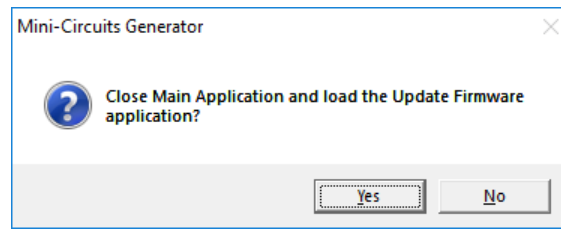

Figure 3.9.5 SSG-15G-RC Firmware upgrade alert
3.9.5 For SSG-15G-RC, after clicking on the “Update Firmware” button an alert will appear (see Fig 3.9.5). Click **Yes to have the generator program shut down and a special Firmware upgrade Application start, or **No** to return to the Generator program.**